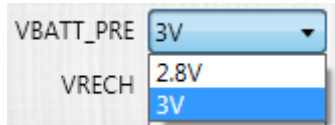

Figure 12: V_{BATT_PRE} Setting
10. Set the pre-charge to constant current charge threshold voltage (see Figure 12). This threshold can be set to 2.8V or 3.0V, and the default value is 3.0V.